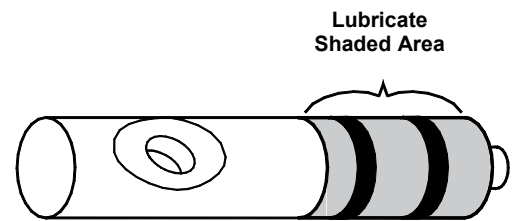

Fig. 19
- a. Install the two o-rings on each spigot plunger (double o-ring on the plunger with vertical grooves) by rolling them onto the plunger. Seat the o-rings in the grooves making certain that they are not twisted. Smooth the lubricant into the grooves and over the sides of the plunger assemblies (Fig. 19).